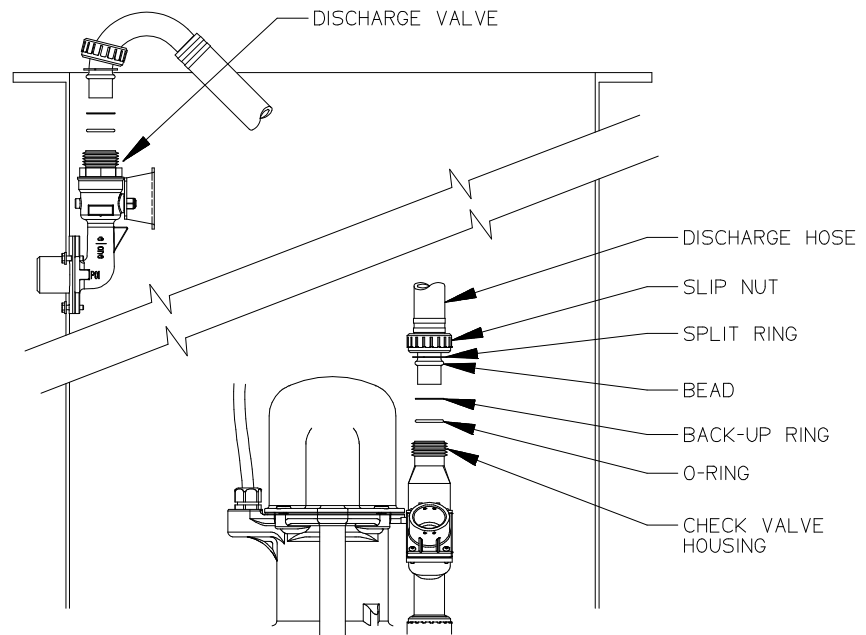

Fig. 8 - Grinder Pump Installation
11. Grinder Pump Installation (Refer to Figure 8)
3. Slide the straight, stainless steel end of the discharge hose assembly into the top of the check valve assembly on the grinder pump until the raised bead contacts the check valve housing. Both the O-ring and back-up ring should slide into the bore of the check valve housing. The hose should be oriented as shown in Figure 8 to support alignment with the station discharge valve.